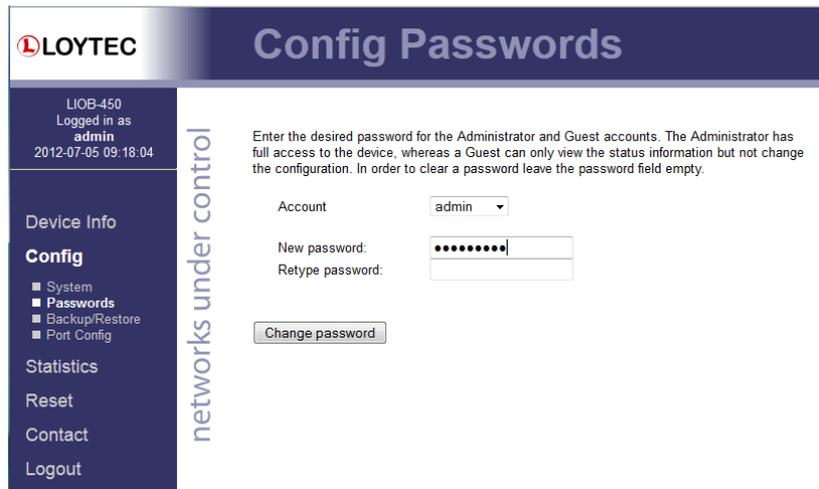

Figure 35: Password Configuration Screen.
The Config menu opens. Click on **Passwords** in the Config menu, which opens the password configuration page as shown in Figure 35. The device has three user accounts: (1) **guest** allows the user to view certain information only, e.g., the device info page. By default the guest user has no password. (2) **operator** is able to read more sensible information such as calendar data. (3) **admin** has full access to the device and can make changes to its configuration. Note that the user accounts are also used to log on to the FTP and Telnet server.